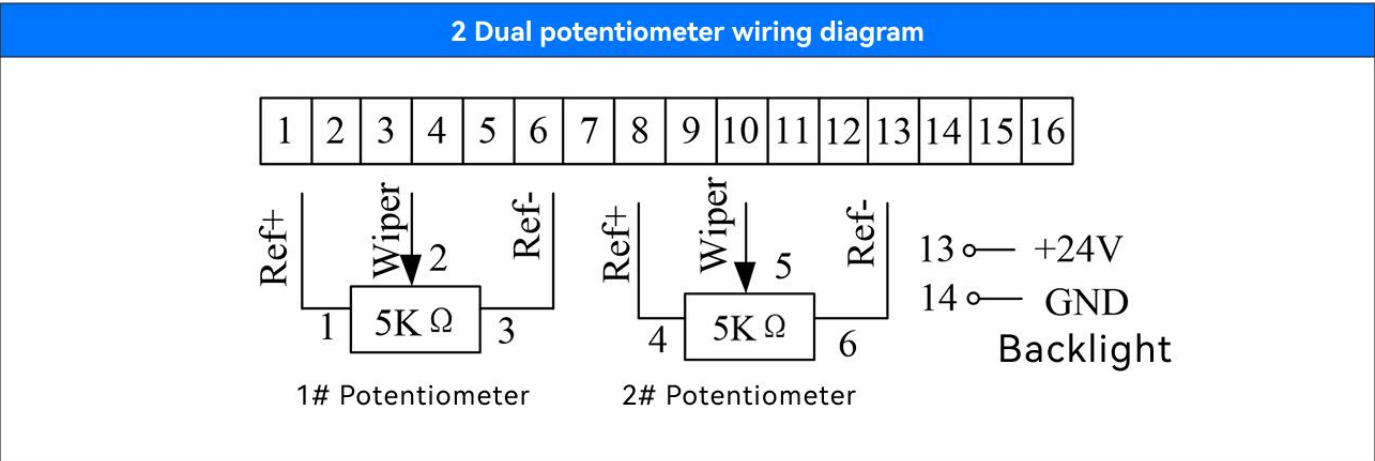

Figure 1.6
2. If there are two potentiometers inside, the wiring should be done as follows, as shown in Figure 1.6.